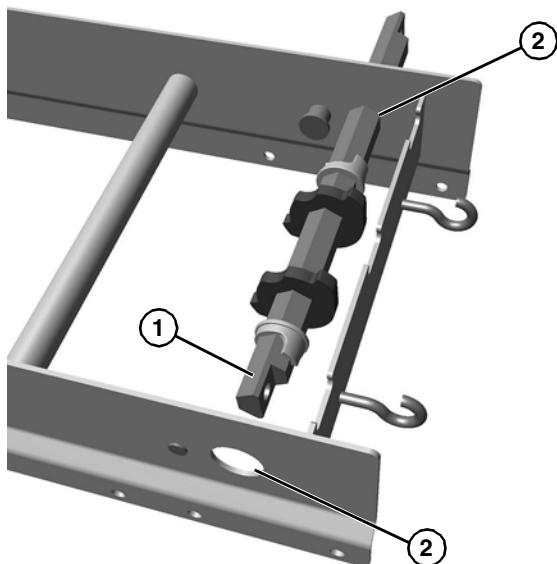

**Figure 18**
1. Slide stop keys (**Figure 18, item 1**) and tip up sleeves (**Figure 18, item 2**) onto hex shaft (**Figure 18, item 3**). The tabs on the tip up sleeves face outward and align with the slotted ends of the hex shaft as shown.